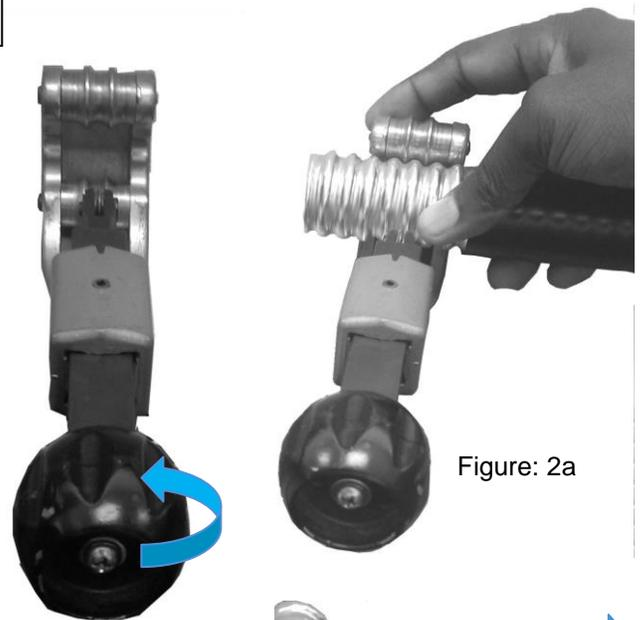

Figure: 2a
- 9) Grasp cable and tool together with one hand as shown in figure: 2a